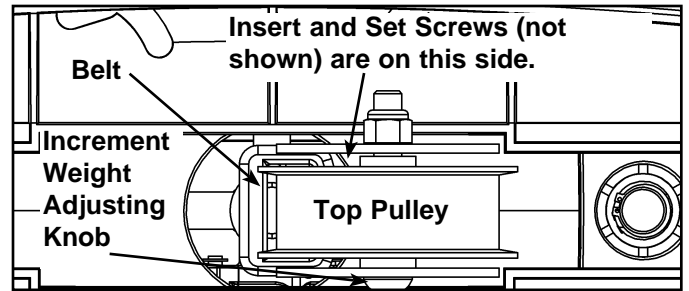

Figure 10 (top view from pulley down to belt clamp)
- B. Carefully lift top weight and verify that the position of the belt clamp (on the top weight) is aligned properly with the top pulley bracket (on the machine). See Figure 10.